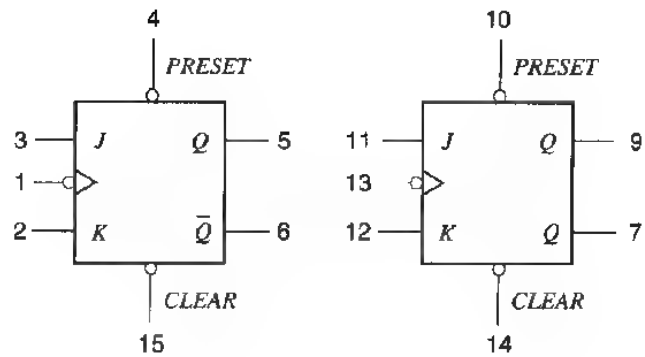

Fig. 4
3. Verify that the function table of Fig. 4 agrees with your observations. A down-pointing arrow means a transition of the clock from high to low, with Q_{n-1} and Q_n being the output values before and after the transition, respectively.